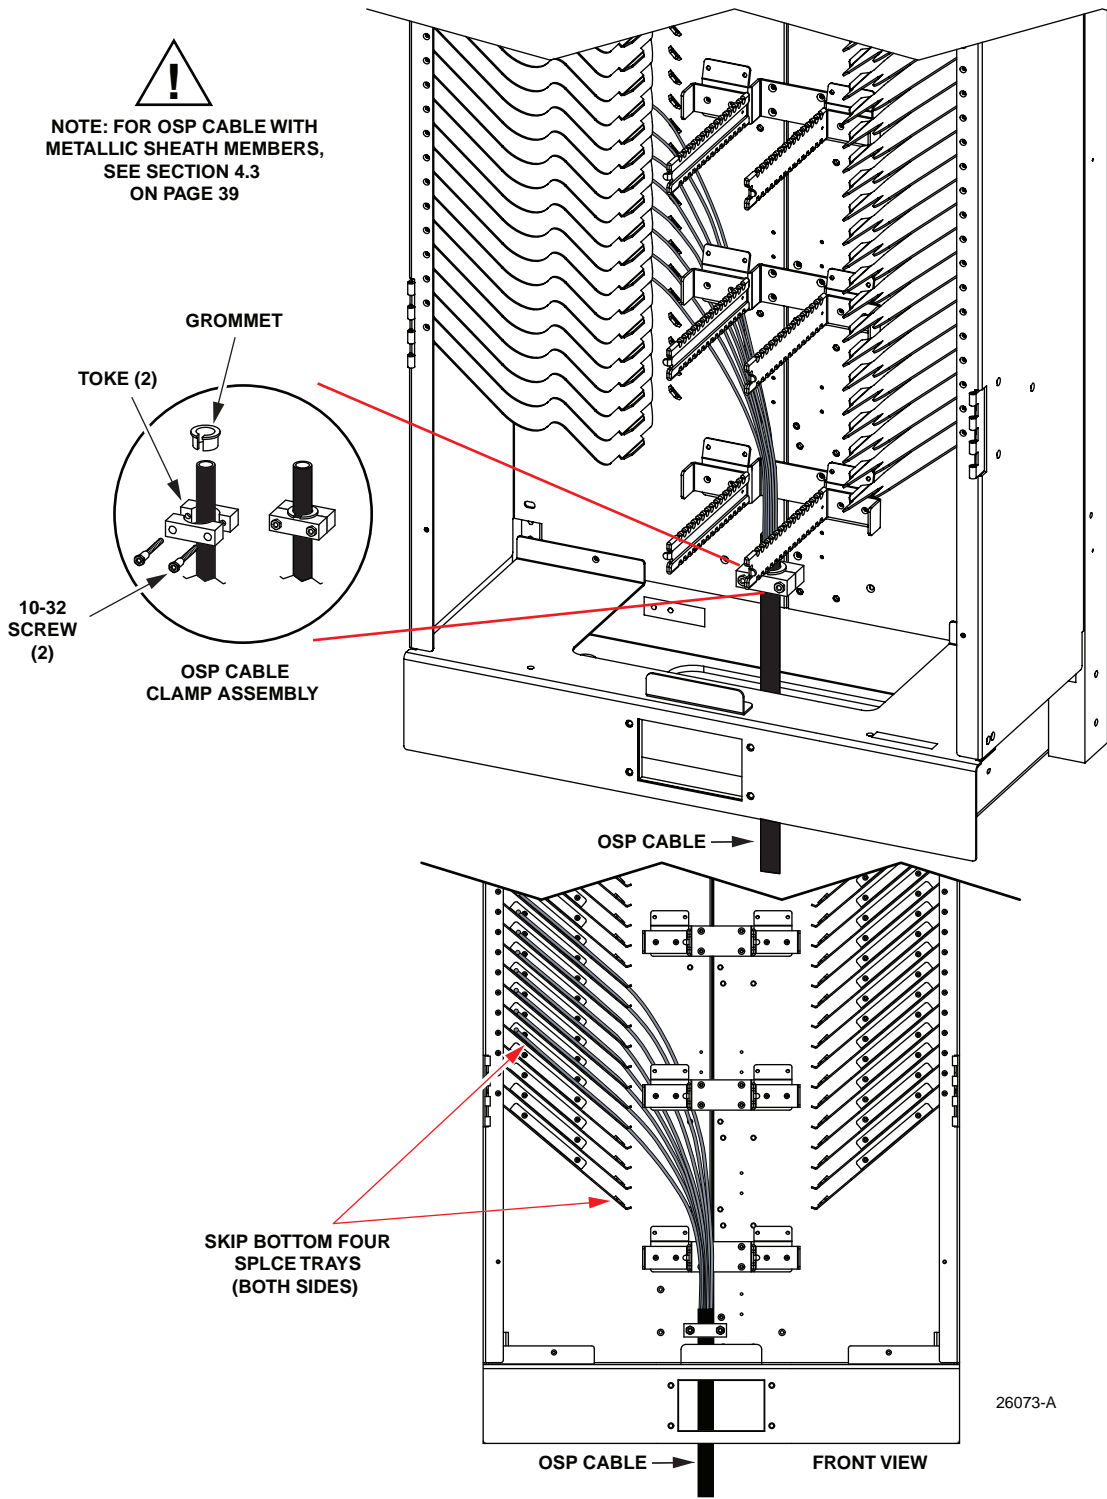

Figure 20. OSP Cable Routing (Raised Floor Cable Environment, 96-Fiber IFC Configuration)
1. Route and secure first OSP cable to the bay as shown in Figure 20.